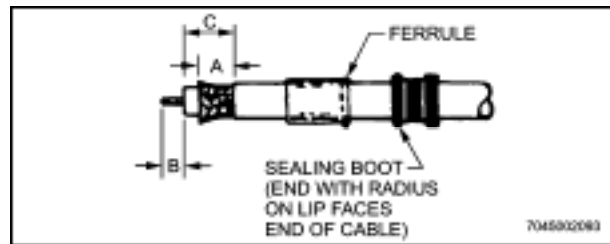
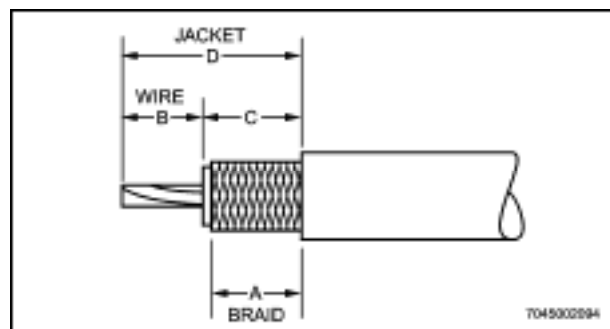

Figure 10-55 Installation of Sealing Boot and Ferrule on Coaxial Cable Before Crimping Contacts
Figure 10-56 Stripping Dimensions for Coaxial Cable in Table 10-27
Sealing boots are needed with all size 5 and size 9 coaxial contacts. Sealing rings are needed for all size 3 and size 7 coaxial contacts and for some size 1 contacts. In general, the manufacturer will furnish the parts needed to seal the connector from the environment and to keep moisture from getting into the cable. Make sure all seals furnished with the contacts are properly installed. (See Figure 10-55)
- (7) Slip ferrule (when used) over cable. The crimp end of the ferrule should face the end of the cable and the shoulder end of the ferrule should face away from the end of the cable. (See Figure 10-55).
- (8) Strip cable using stripping lengths given in Table 10-27 and illustrated in Figure 10-56. For braided cable, flare braid. (See Figure 10-55.)
- (9) Insert contact into indenter opening so that contact rests in positioner and wire barrel is between indenter jaws.
- (10) Insert stripped centre conductor into centre contact until cable dielectric butts against rim of wire barrel. Then close crimp tool handles until ratchet releases. Handles will then return to open position, allowing crimped contact to be removed.
- (1) Slip sealing boot (when used) over cable. The end of the sealing boot with the rounded lip should face the end of the cable. (See Figure 10-55)